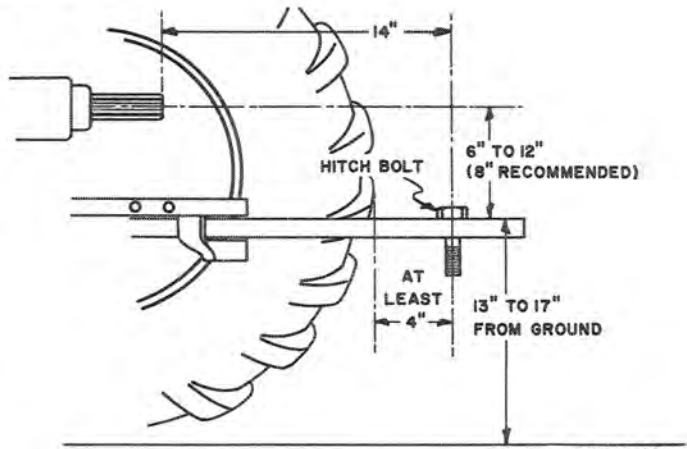

FIGURE 11
1. Adjust the length of the tractor drawbar so that the horizontal distance between the end of the tractor P.T.O. spline and the hitch bolt is 14", as shown in Figure 11, and at least 4" past the outside radius of the tractor tire. A.S.A.E. further specifies that the distance from the center of the P.T.O. spline to the top of the drawbar should be from 6" to 12" — 8" is recommended. The top of the rear end of the drawbar should be from 13" to 17" from the ground. On some tractors, a hitch adapter plate must be used to obtain the correct distance while on others, which are not A.S.A.E. standard, it may be necessary to install a P.T.O. conversion kit.